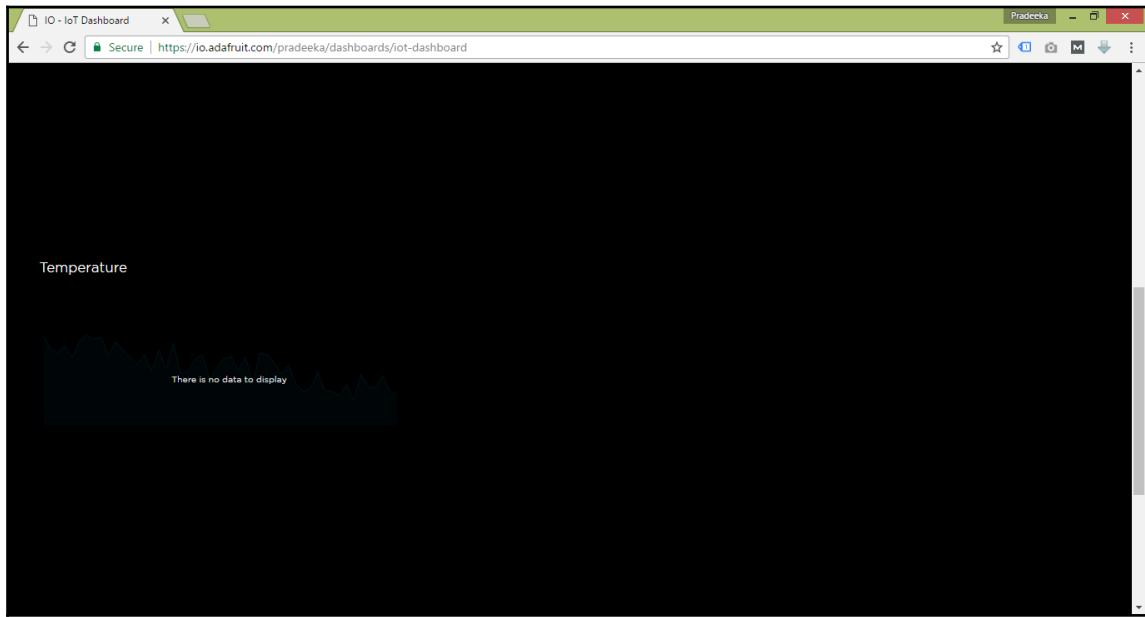

Figure 4-17: Line Chart block with no data
5. A blank **Line Chart** block will be added to the IoT dashboard, as shown in Figure 4-17: